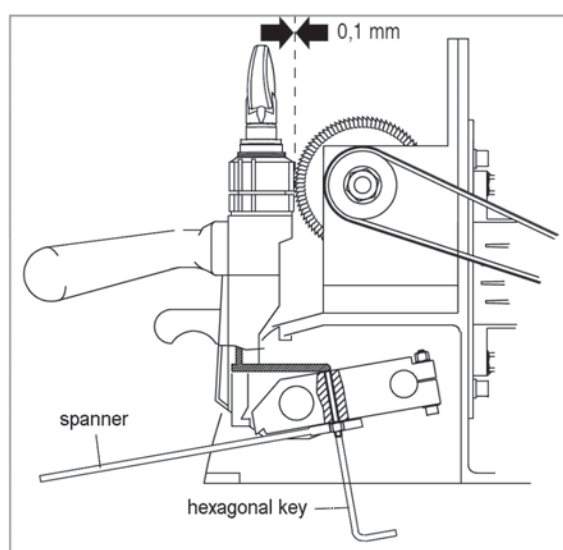

Fig. 46
- 1) Release the carriage, raise against the cutting tool and take to the end of its run (Fig. 46).
- 3) Release the nut with the spanner (Fig. 46).